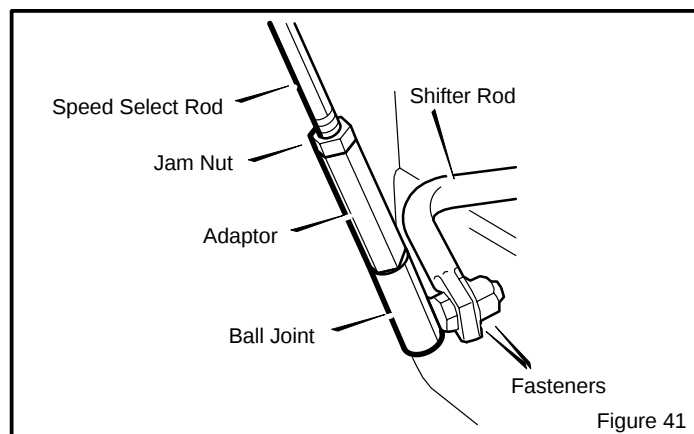

Figure 41
2. Loosen hex **jam nut** on **speed select rod**. Remove **ball joint** from **shifter rod** (see Figure 41).
4. Turn the **adaptor** until the **ball joint** is aligned with the mounting hole in the **shifter rod** (see Figure 41). When aligned, attach the **ball joint** to the **shifter rod**.